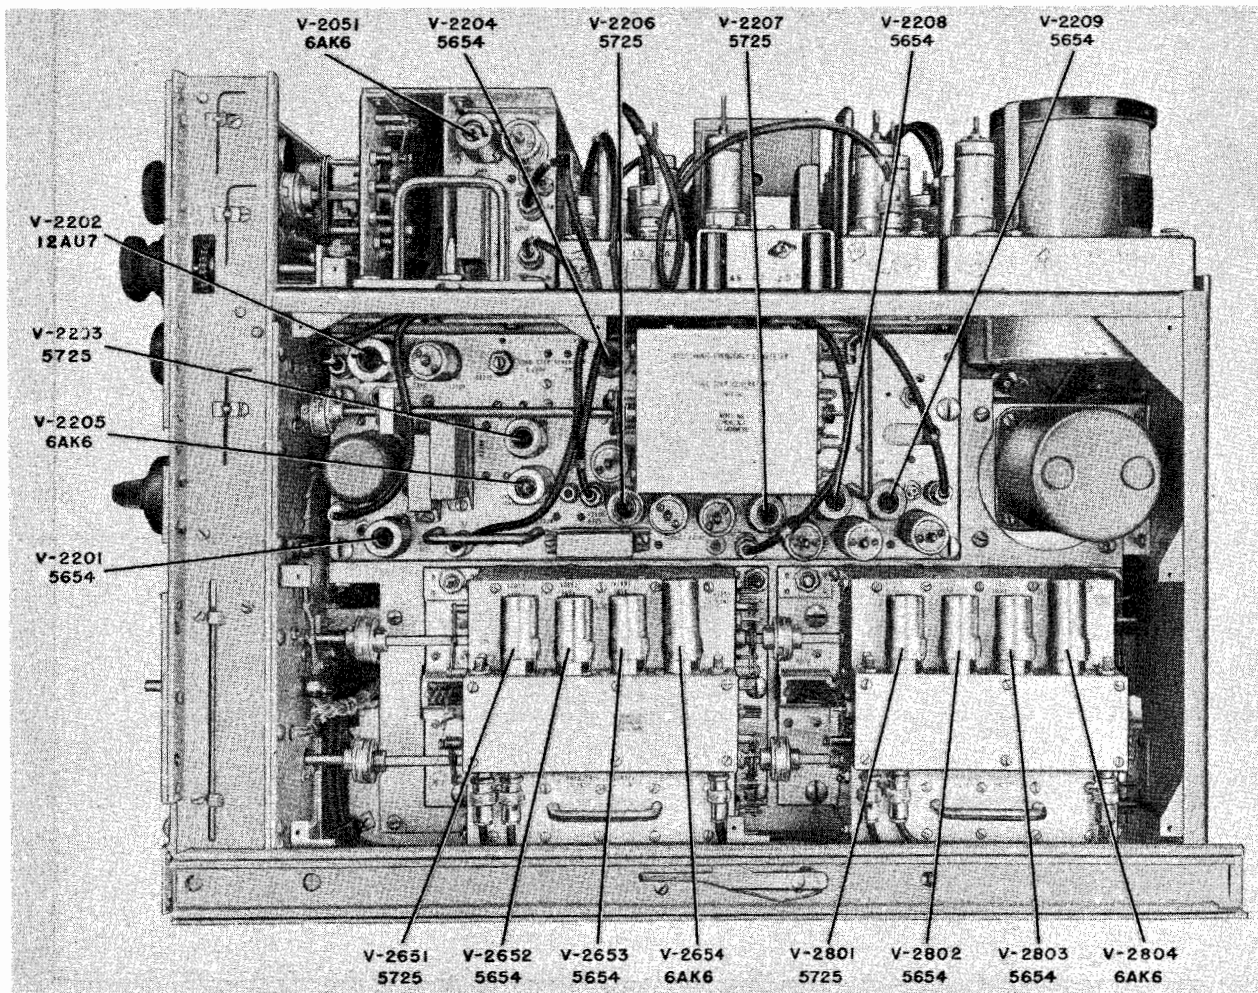

Figure 5-10. Radio Frequency Oscillator O-275/SRT (RFO), Right Side, Tube Locations
12.	Electron Frequency Converter Z-2204 (RFO-Unit 6). (See figure 5-10.)
18.	Electron Frequency Converter Z-2651 (RFO—Unit 11B). (See figure 5-10.)
19.	Electron Frequency Converter Z-2801 (RFO—Unit 11C). (See figure 5-10.)